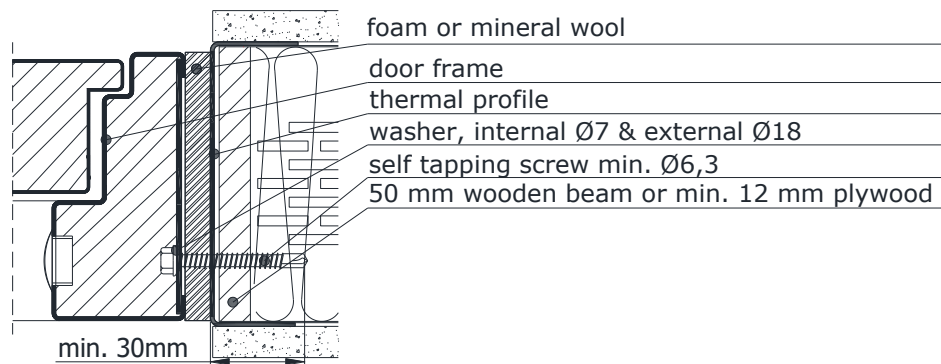

Figure 6.
- 6.2. On frames with sleeves, tighten the sleeves against the wall (figure 6.). Frames with sleeves do not require support blocks between the frame and the wall. If the sleeve does not extend to the wall, use additional plates. Use proper fixings for ESSVE sleeves (section 1 Tools and fixings). Tighten the screws.